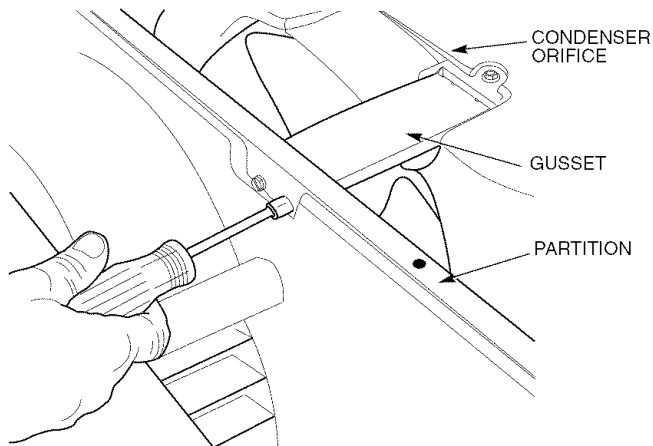

FIGURE 28 — REMOVING GUSSET
7. Remove the gusset (two screws inside the partition, one screw at condenser orifice). Push condenser orifice outward. Pull the gusset up and out of orifice. See Figure 28.